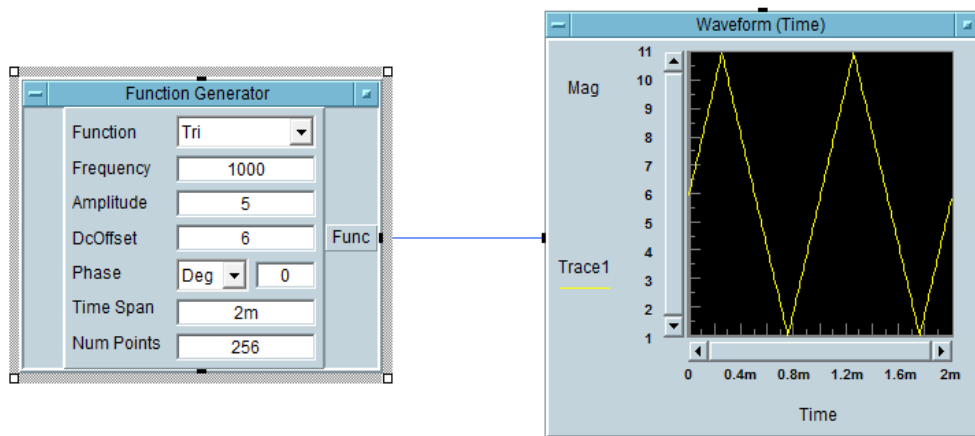

Fig. 6. Displaying a triangular waveform
- Adjust the settings of the function generator as shown in Fig. 6 and connect the data output pin of the function generator (**Func**) to the data input pin of the Waveform (Time) labeled as **Trace1**. In order to run the program, press **Run** button placed below the Menu Bar. After the program runs, the waveform in Fig. 6 is displayed.